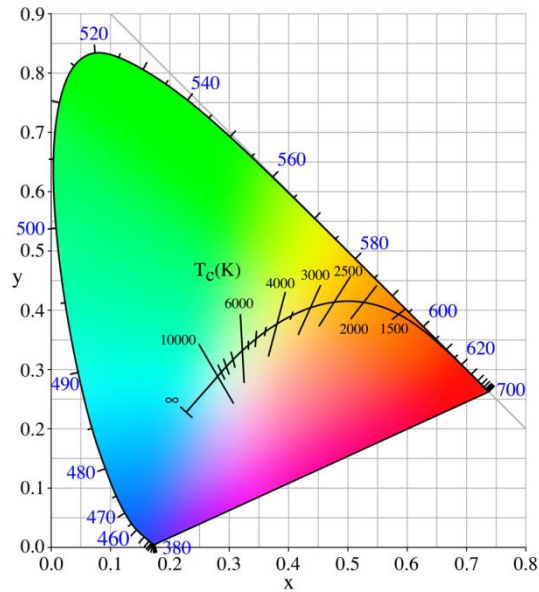

Fig. 6. CIE 1931 chromaticity diagram. Source: [9].
- **Chromaticity diagram:** allows representing all colors as a weighted sum of three 'primary' colors. For the light sources, there are three basic colors (red, green and blue), so every other can be obtained as a combination of all these three. Every light source can be represented as a point in the chromaticity diagram ('color point') that informs on its content in the three basic colors [1]. Fig. 6 depicts the C.I.E. chromaticity diagram.